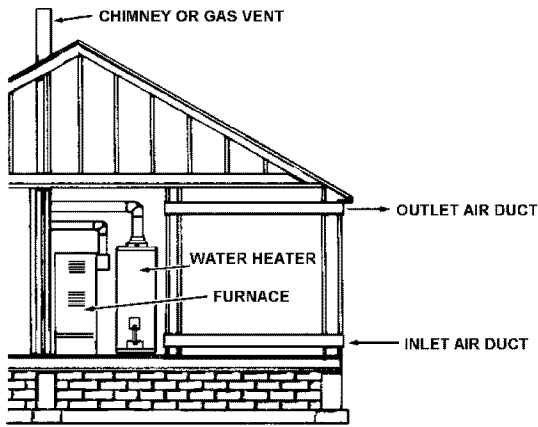

FIGURE 13.
- When communicating with the outdoors through horizontal ducts, each opening shall have a minimum free area of 1 square inch per 2,000 BTU per hour (11 cm²/kW) of total input rating of all equipment in the enclosure. See Figure 13.
- When ducts are used, they shall be of the same cross-sectional area as the free area of the openings to which they connect. The minimum short side dimension of rectangular air ducts shall not be less than 3 inches (76.2 mm). See Figure 13.